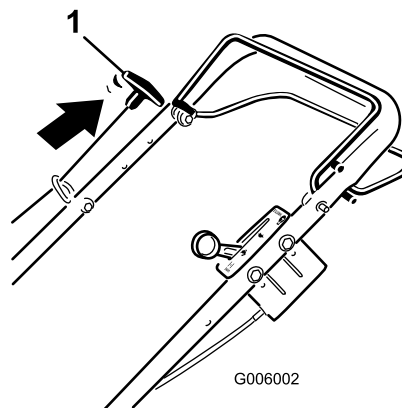

Figure 24
4. Hold the blade control bar against the handle and pull the recoil starter once or twice (Figure 24).
6. Hold the blade control bar against the handle and pull the recoil starter (Figure 24).